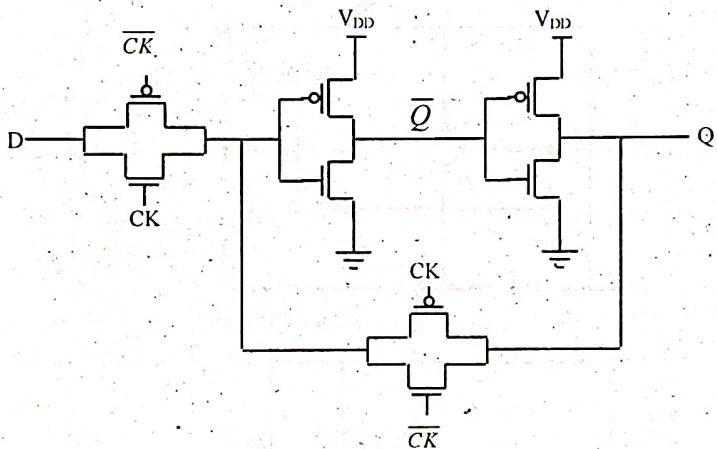

Fig: 2 CMOS implementation of D-latch
Direct CMOS implementations of conventional circuits require a large no. of transistors. But use of CMOS transmission gates make the circuits simpler and require fewer transistors. A simple D-latch circuit is shown in fig. 1 and fig.2.
The D-flip-flop can also be implemented with two CMOS inverters and two transmission gates (TG) as shown in fig. 2.